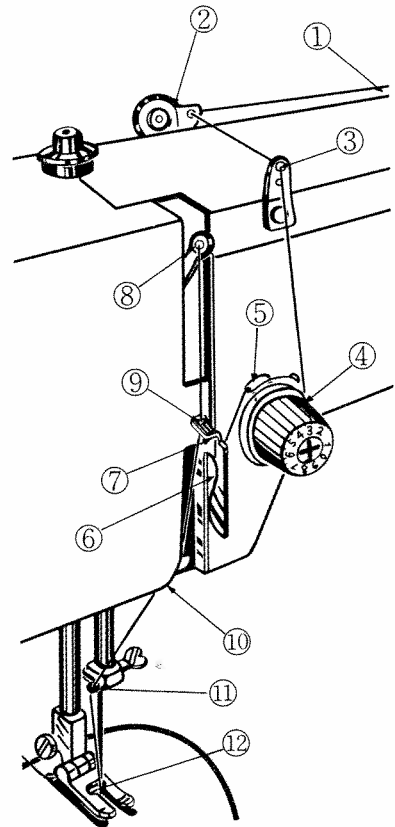

Fig. 10
6. under thread guide bar (⑥, Fig. 10)